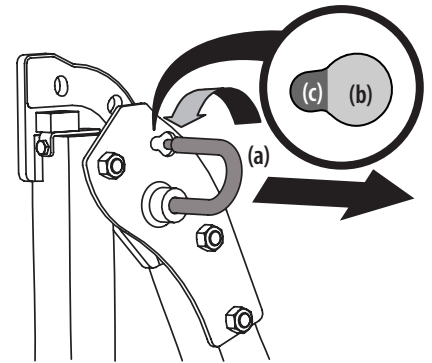

Figure 2-3
1. Pull slightly up on the upper ROPS to relieve any tension on the locking pin (a) and rotate the locking pin (a) from the LOCKED (b) position into the ADJUSTMENT (c) position. See Figure 2-3. Repeat the procedure for the locking pin on the opposite side.